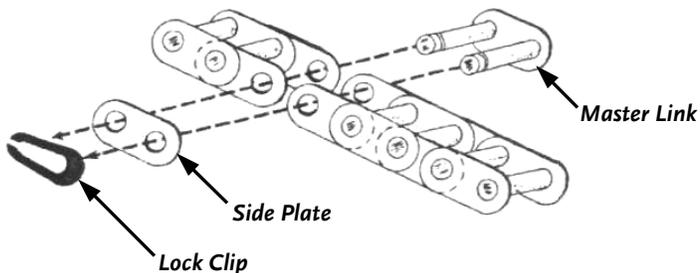

Figure 30
3. Remove the Master Chain Link (**Figure 30**). First, remove the Lock Clip by spreading the Clip with the Screwdriver and at the same time, slide the Lock Clip back off the Master Link pins with the Needle Nose Pliers. Next, remove the Side Plate, and then remove the Master Chain Link.
6. Add the Master Chain Link (**Figure 30**) in the reverse order of step 3.